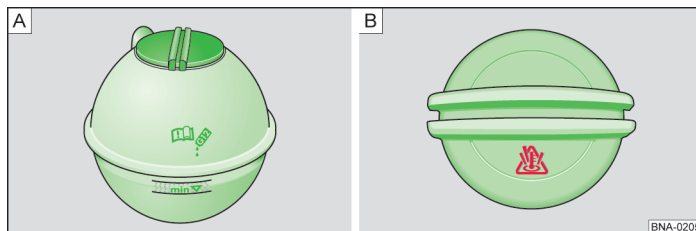

Fig. 59 In the engine compartment: marking on the engine coolant expansion reservoir / cap of the engine coolant expansion reservoir
- The expansion reservoir of the engine coolant can be identified by the symbol  on the cap » fig. 59 - .
- When the engine is cold, check the engine coolant level by the marking on the side of the expansion reservoir » fig. 59 - .
- The engine coolant level should be within the markings of the expansion reservoir » fig. 59 - . Do not replenish beyond the upper edge of the marked range » !
- Replenish engine coolant only up to the upper edge of the marked range » [fig. 59 - !\[\]\(9bf097d682561b2ffd12d57a40ca73b1_img.jpg\)](#) » page 107. Otherwise, excess engine coolant will be forced out of the engine cooling system when it heats up, causing damage.